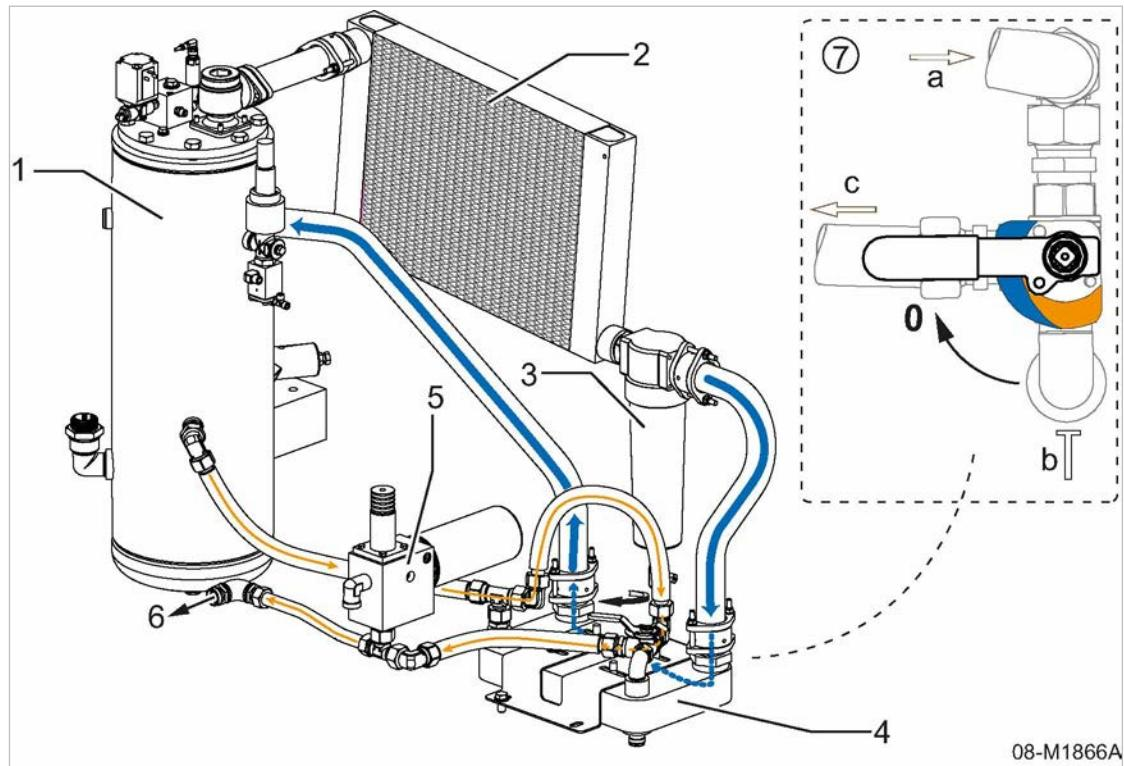

Fig. 36 Heat exchanger with bypass operation (no compressed air heating)
For details about the 3-way cock, see Fig. 36, item 7.